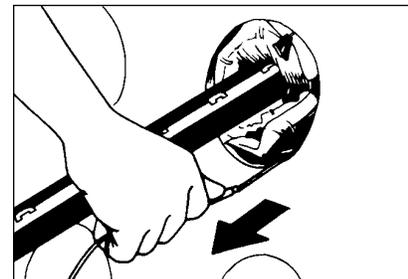

Figure 12
- Gently pull the filling tube out in the direction of the cable. (Figure 12)